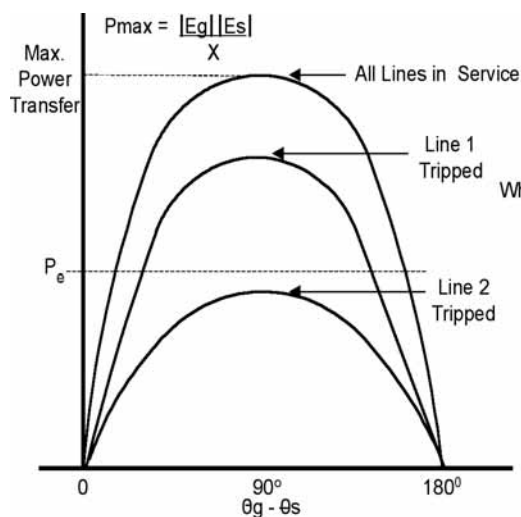
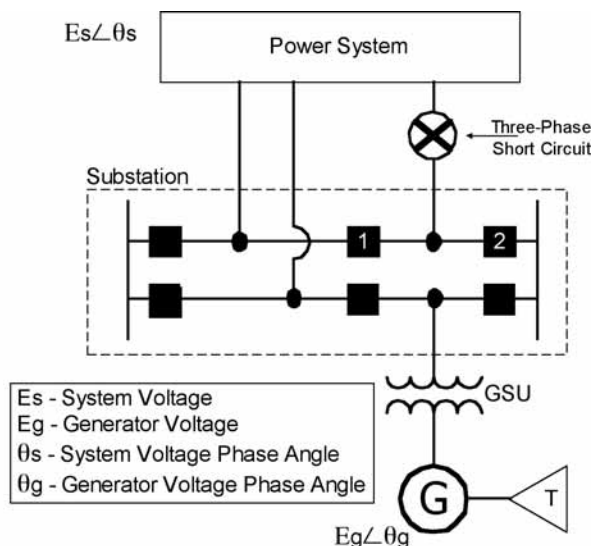

Fig.5 Power Angle Analysis - Steady-state Instability
Fig. 6 Typical Large Power Plant One-Line Diagram
Fig. 5 illustrates how steady-state instability occurs. The ability to transfer real (MW) power is described by the power transfer equation and is plotted graphically. From the power transfer equation in Fig. 5, it can be seen that the maximum power (P_{max}) that can be transmitted is when $\theta_g - \theta_s = 90^\circ$, i.e. $\sin 90^\circ = 1$. When the voltage phase angle between local and remote generation increases beyond 90° , the power that can be transmitted is reduced and the system becomes unstable and usually splits apart into islands. If enough lines are tripped between the load center and the remote generation supplying the load center, the reactance (X) between these two sources increases, thereby reducing the maximum power (P_{max}) which can be transferred. The power angle curve in Fig. 5 illustrates this reduction as line 1 trips the height of the power angle curve and maximum power transfer is reduced because the reactance (X) between the two systems has increased. When line 2 trips, the height of the power angle curve is reduced further to where the power being transferred cannot be maintained and the system goes unstable.
Relay engineers design transmission system protection to operate faster than a generator can be driven out of synchronism, but failures of protection systems have occurred that resulted in slow-clearing transmission system faults. It is generally accepted [2] that loss-of-synchronism protection at the generator is necessary to avoid machine damage. The larger the generator, the shorter is the time to drive the machine unstable for a system fault. Fig. 6 illustrates a typical breaker-and-a-half power plant substation with a generator and a short circuit on a transmission line near the substation. If the short circuit is three-phase, very little real power (MW) will flow from the generator to the power system until the fault is cleared. The high fault current experienced during the short circuit is primarily reactive or VAR current. From the power transfer equation (Fig. 5), it can be seen that when E_g drops to almost zero, almost no real power can be transferred to the system. The generator AVR senses the reduced generator terminal voltage and increases the field current to attempt to increase the generator voltage during the fault. The AVR control goes into field-forcing mode where field current is briefly increased beyond steady-state field circuit thermal limits.